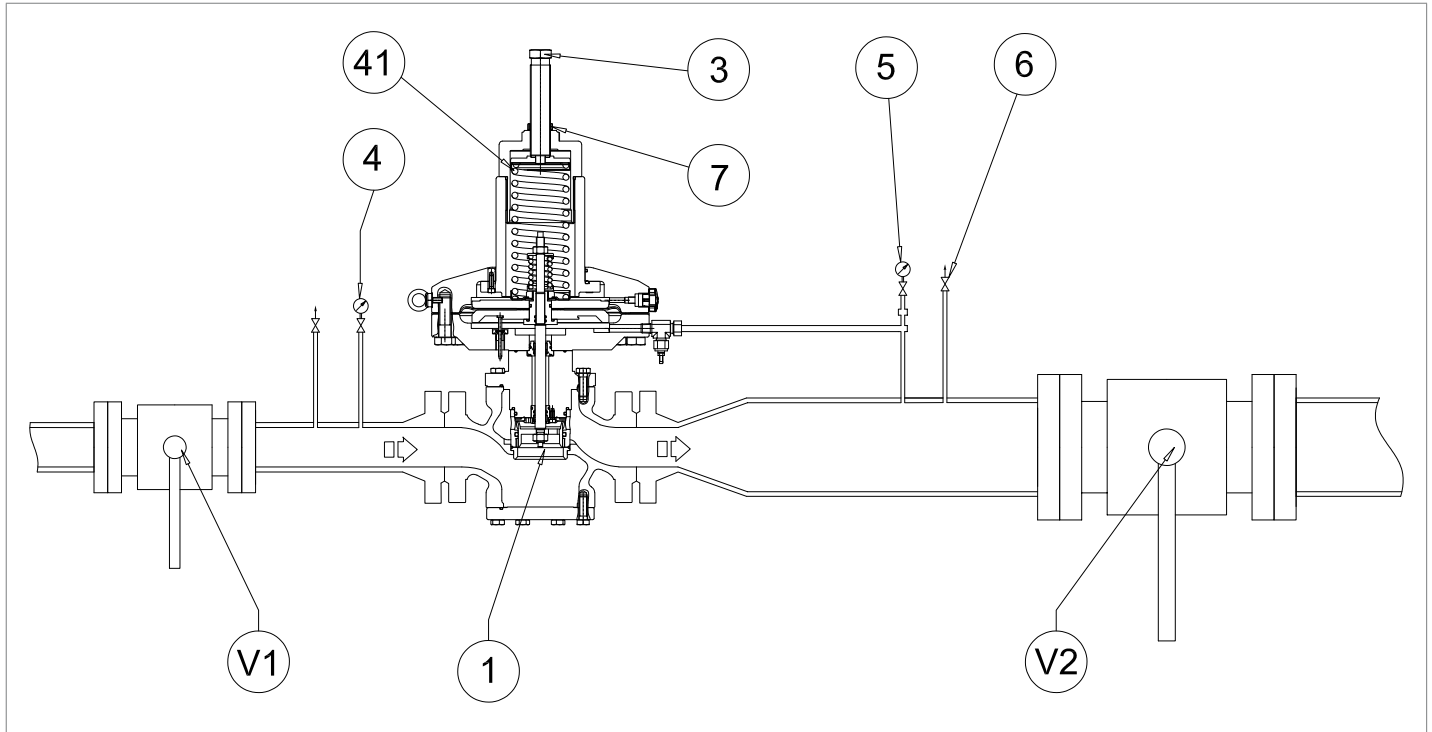

Fig. 8.17. Commissioning of the regulator NORFLUX
1	<p>Increase the downstream pressure to the slam-shut valve trip value by turning the set screw (10) of the pilot (2) of the main regulator (1) to check the correct setting.</p> <p>NOTICE</p> <p>Check the pressure by referring to the pressure gauge (Fig. 8.17, ref. 5) placed downstream of the main regulator.</p> <p>If the slam-shut valve:</p> <ul style="list-style-type: none"> trips before the expected pressure value: tighten (clockwise) the adjustment ring nut (13) so as to compress the spring (11) more; does not trip at the expected pressure value: unscrew (counterclockwise) the adjustment ring nut (13), so as to relieve the spring (11).
2	Decrease the pressure of the downstream section by opening the drain cock (Fig. 8.17, ref. 6) to bring it up to the calibration value of the main regulator.
3	Close the drain cock (Fig. 8.17, ref. 6).
1	Partially open the drain cock (Fig. 8.17, ref. 6) in the atmosphere and keep it open for the next steps.
2	<p>Decrease the downstream pressure to the minimum required slam-shut trip pressure by acting on the set screw of the pilot of the main regulator.</p> <p>NOTICE</p> <p>Check the pressure by referring to the downstream pressure gauge (Fig. 8.17, ref. 5).</p> <p>If the slam-shut valve:</p> <ul style="list-style-type: none"> • does not trip before the expected pressure value: unscrew (counterclockwise) the adjustment ring nut (15), so as to relieve the spring (17); • does not trip before the expected pressure value: tighten (clockwise) the adjusting screw (15) so as to compress the spring (17) more;
7	Close the drain cock (Fig. 8.17, ref. 6).